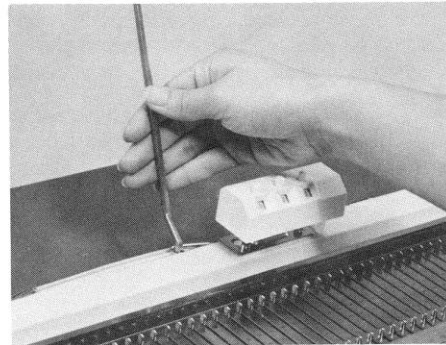

Fig.16
10. Into the small socket under the carrying handle at the back of the machine, insert the square end of the rod in such way that the rod leans backwards and the flat end is at the top. (Fig.16)